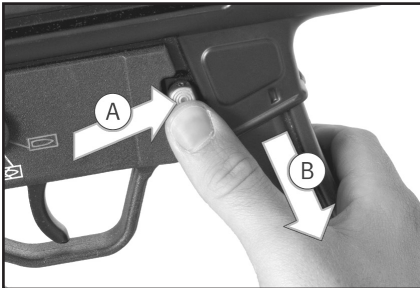

Fig. 19 – Remove the magazine
2. Remove the magazine. Depress the magazine release button on the right side of the receiver (Fig. 19Ⓐ) or paddle on the SP5. Remove the magazine from the magazine well (Fig. 19Ⓑ).